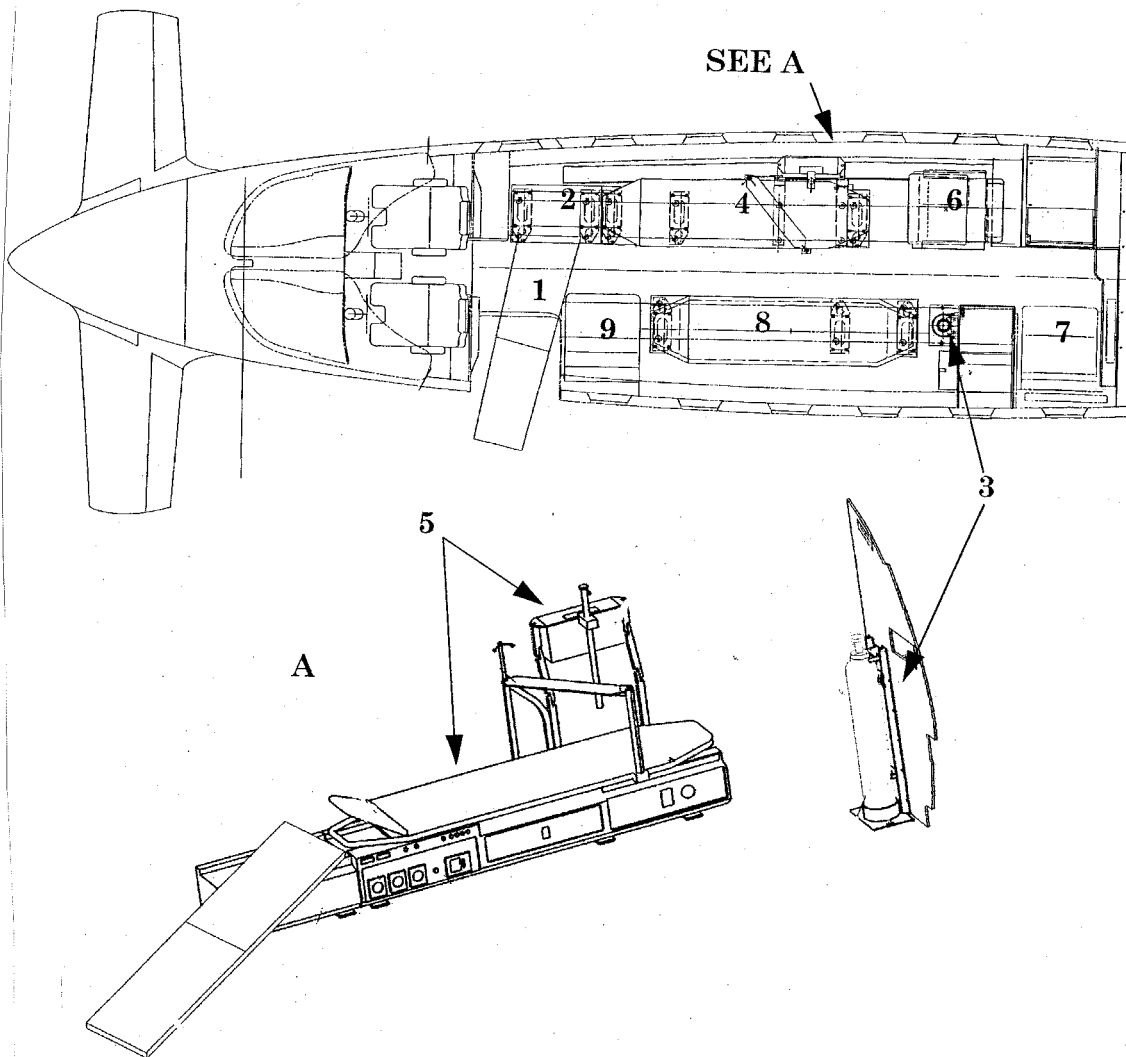

Fig. 11 - Option 21" AMBULANCE Configuration
L. The option # 21 "AMBULANCE" - (LifePort Inc. Piaggio Kit P/N 80-909827-805) passenger compartment (Ref. to Fig. 11).